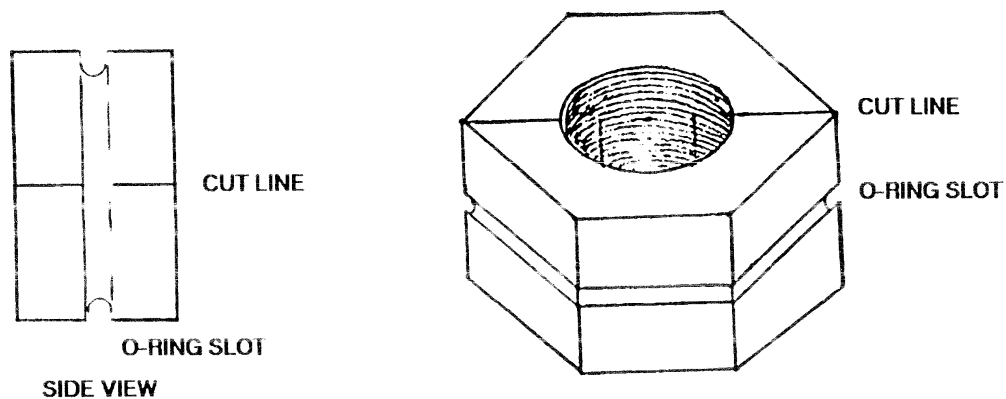

FIGURE 4-2
B. Method Two: Fabricate a removal tool for stubborn glow plugs by using a 10 x 1.00 metric nut and an O-ring (NSN 5330-00-966-8657), see figure 4-2 for instructions. Back the glow plug out of its hole as far as the threads will push it, slip the split nut over the hex end of the plug and down over the threaded portion of the plug. Once in position place a 14 mm wrench on the nut to hold it from turning. Using your 3/8 inch deep socket or end wrench continue unscrewing the plug from the head. In some cases, additional spacers will be needed to completely remove the plug. For spacers use washers that will fit over the hex portion of the glow plug. Place the washers behind the split nut.